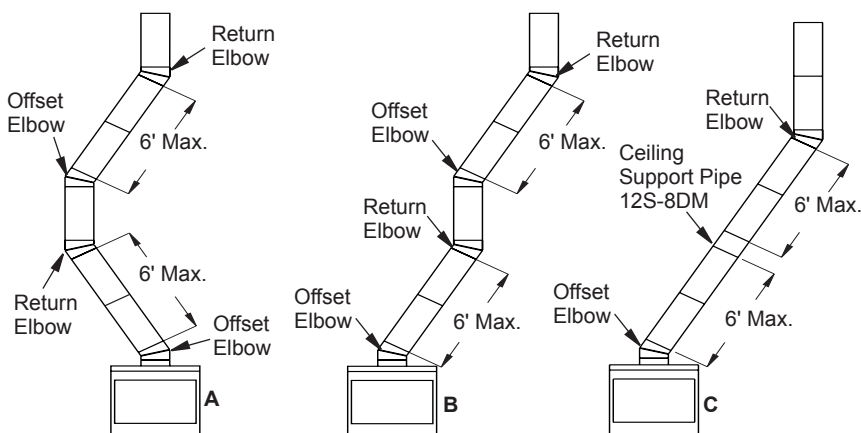

Figure 9 - Typical Offset Installation
1. To achieve desired offset, you may install combinations of 12", 18", 24", 36" and 48" length of double wall pipe (see offset chart and Figure 9).
3. Maximum length of pipe between supports (return elbow or 12S-8DM) is 6' of angle run. Maximum of two 6' angle run sections per chimney system (see Figure 9).